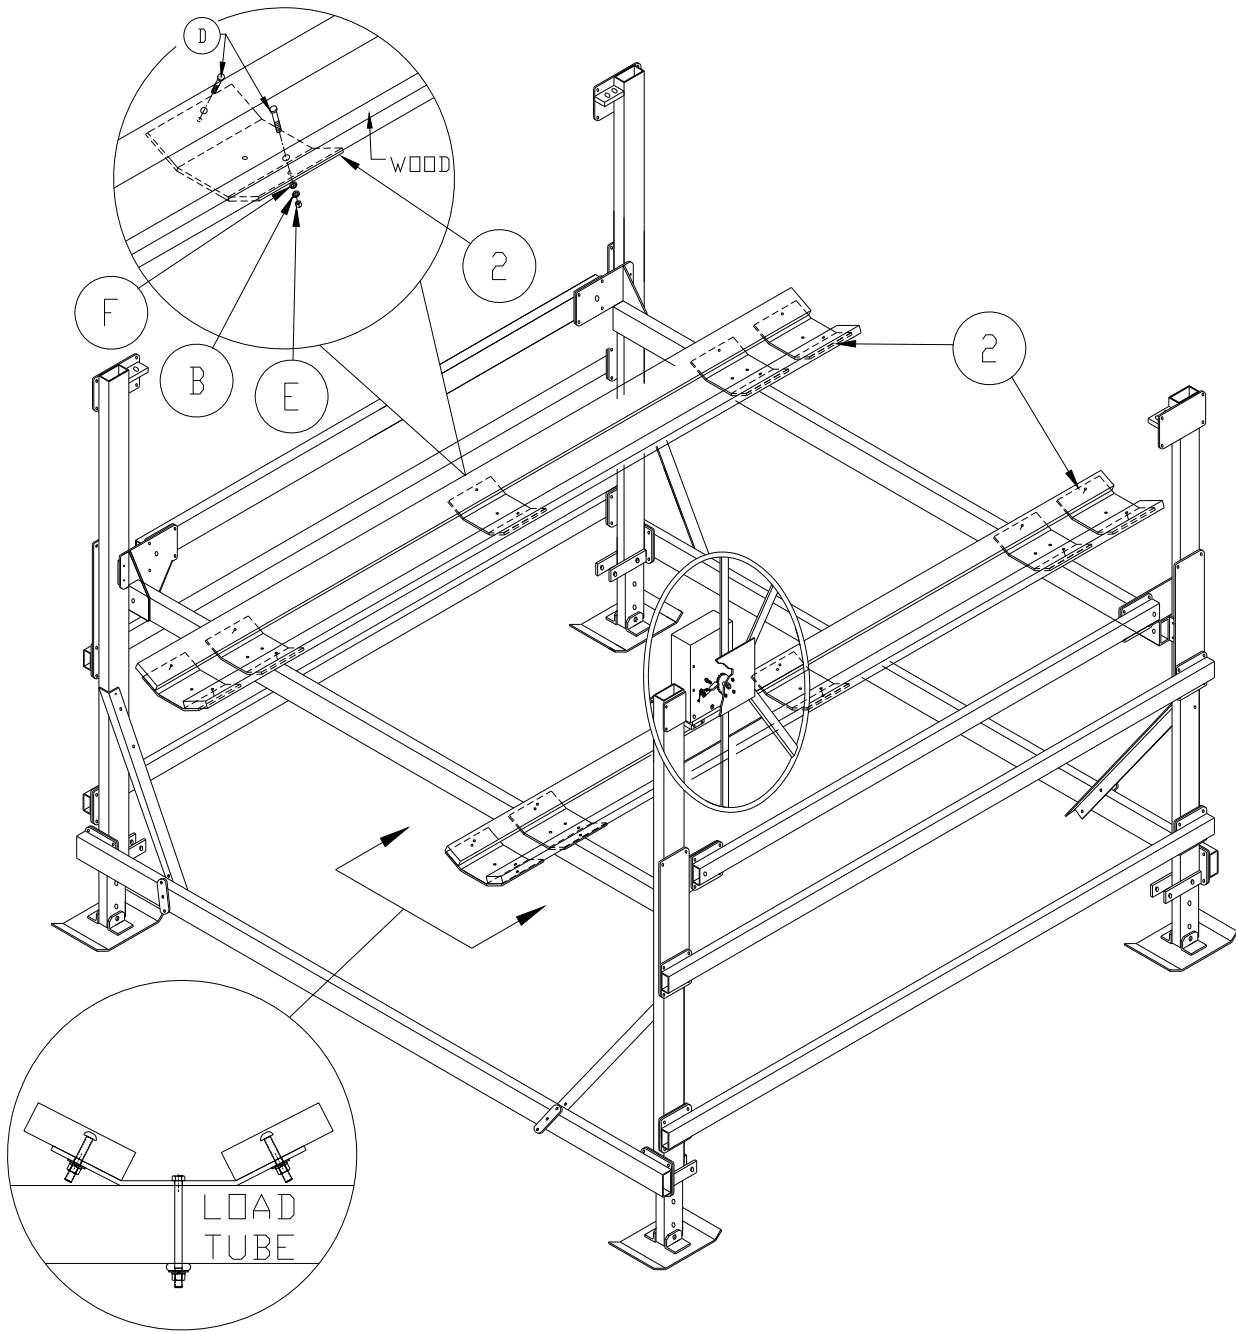

Figure 2-4.
1. **Refer to Figure 2-4.** Position the six three-hole cradle support plates (2) onto the underside of the wood, three on each pontoon cradle. One each end and one at approximately center.
2. Mark the location of the three holes for each support plate (2) and drill the necessary holes using the 7/16" drill bit. Next drill the optional 1/4" deep countersink.
3. Attach each support plate (2) to the underside of the two pieces of wood using: two carriage bolts (D), two flat washers (F), two split-lock washers (B), and two hex nuts (E).